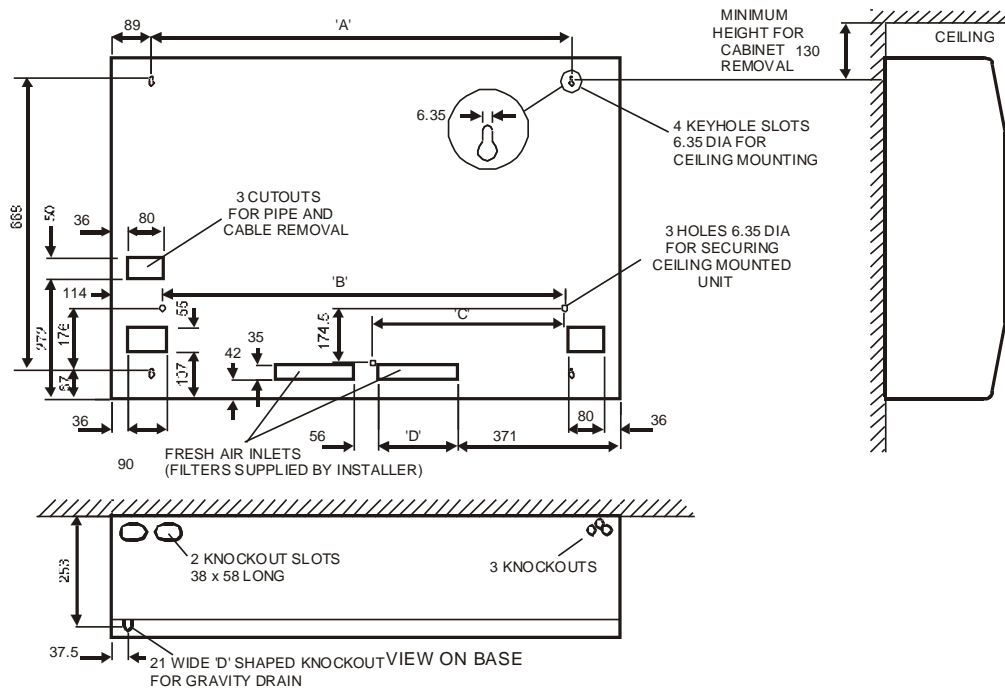

Fig. 2
3. Mark off the mounting holes as Fig.2 and drill holes to suit M6 rawlbolt shields or equivalent fasteners. Allow 130mm minimum from ceiling to holes for cabinet removal on wall mounted units. Allow 150mm at the base plate (wall or ceiling mounted) to maintain design airflows.
4. If a fresh air facility is required, apertures must be prepared as shown in Fig.2. This must be suitably lined and screened on the internal wall to prevent brick dust from entering the unit, (apertures are 35mm high), filters are fitted as standard.